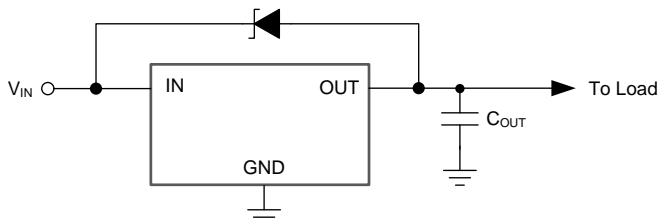

Figure 55. Zener Diode Placed from IN to OUT
- Place a zener diode from IN to OUT to provide a small positive dc bias on the output when the input is supplied to the device, as shown in Figure 55.